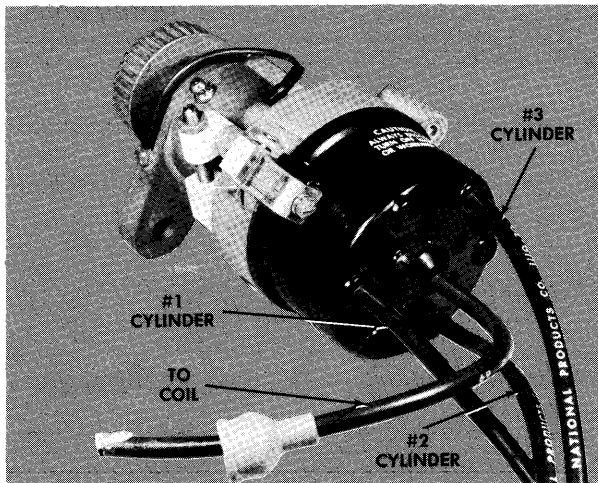

Figure 3 - Location of Leads
- G. Route spark plug lead wires to respective spark plugs. See figure 3 for identification of lead wires.